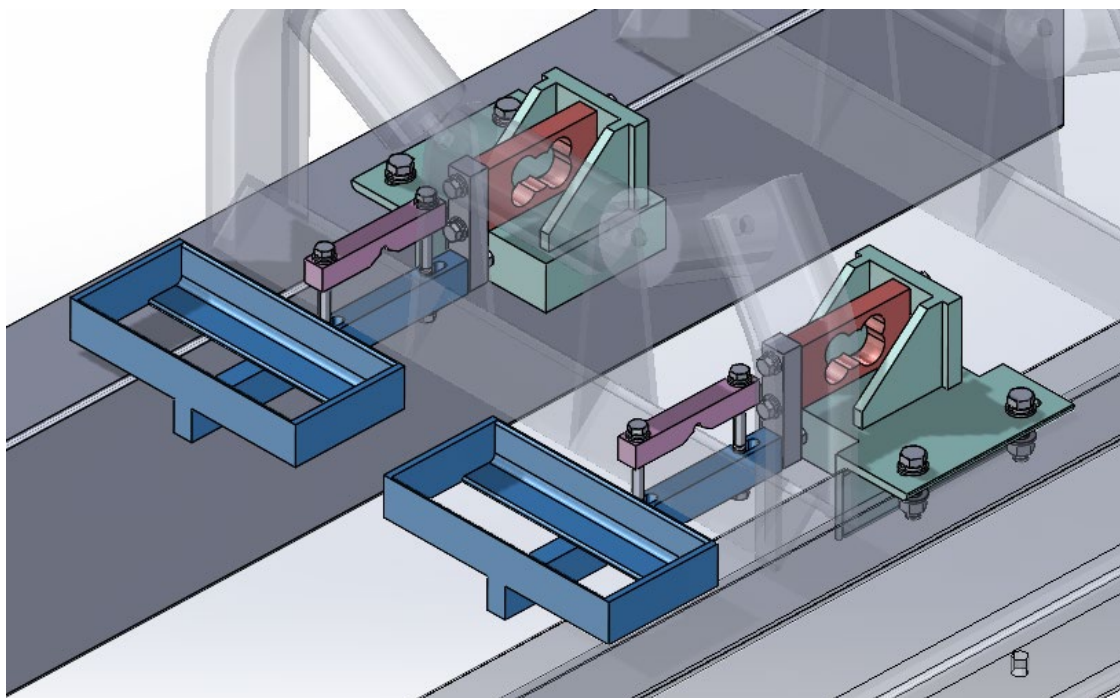

Figure 5: Weigh Frame Installed
5. Install Wheel Bar over the idler wheel bracket. Secure with M12x110 bolts, washer, spring washer and bolt. See Figure 5 and 6.
6. Install Wheel Bar over the idler wheel bracket. Secure with M12x110 bolts, washer, spring washer and bolt. See Figure 5 and 6.